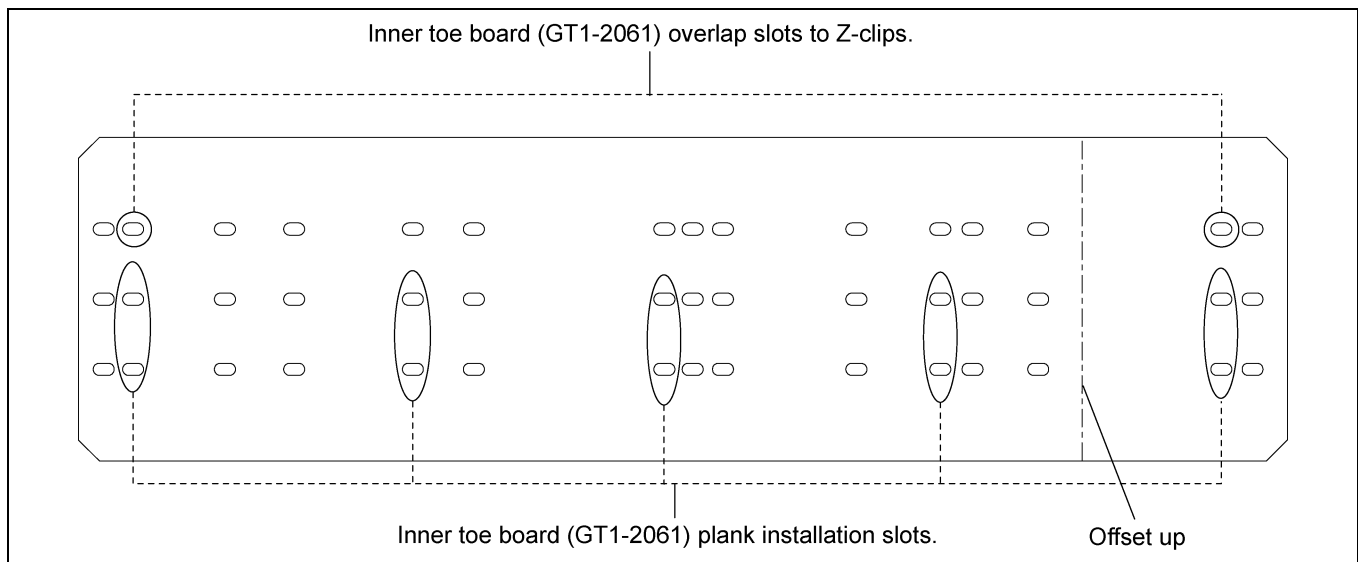

Figure 5K 18' Inner Toe Board (GT1-2061)
3. Inner toe board is arranged with overlap slots on each side and plank installation slots. Install 18' inner toe boards (GT1-2061) to corresponding overlap and plank installation slots as shown in Figure 5K.